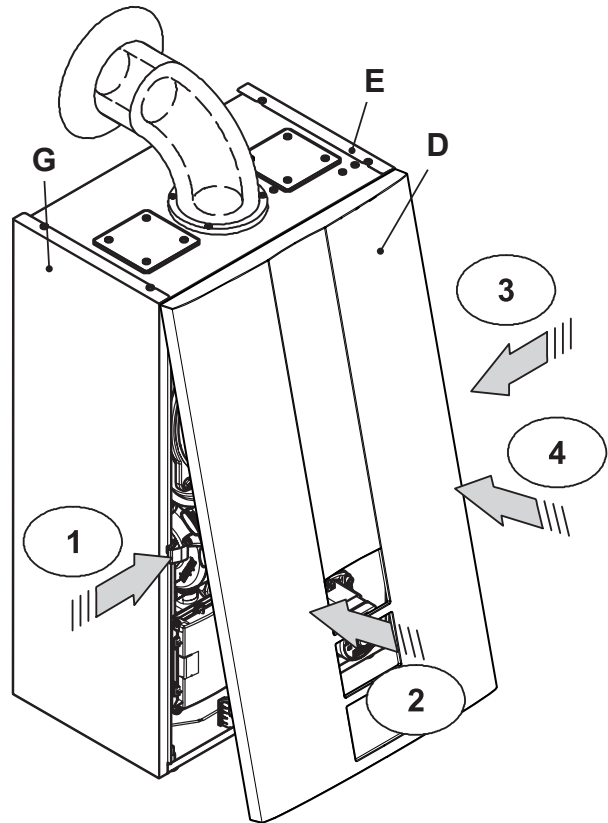

Fig. 9.8
- Push the spring towards the internal side of the boiler and simultaneously push the front case panel D until it is completely hold in place (Fig. 9.8) step 1-2.
- Repeat the same operation on the opposite side of the front panel D, (Fig. 9.8) step 3-4.